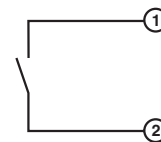
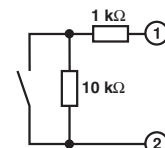

Figure 4 Switch contact with open circuit (not permitted for safety-related applications (SIL 2))
Figure 5 Switch contact with resistance circuit
NOTE: For **switch contacts with open circuit** (Figure 4) line fault detection (LF) must be disabled or the corresponding resistance circuit must be provided directly at the switch contact (Figure 5, e.g., UKK 5-2R/NAMUR (Order No. 2941662) with D-UKK 3/5 (Order No. 2770024)).
WARNING: Only switch contacts with resistance circuit are permitted at the input for safety-related applications (see Figure 5 on page 7).